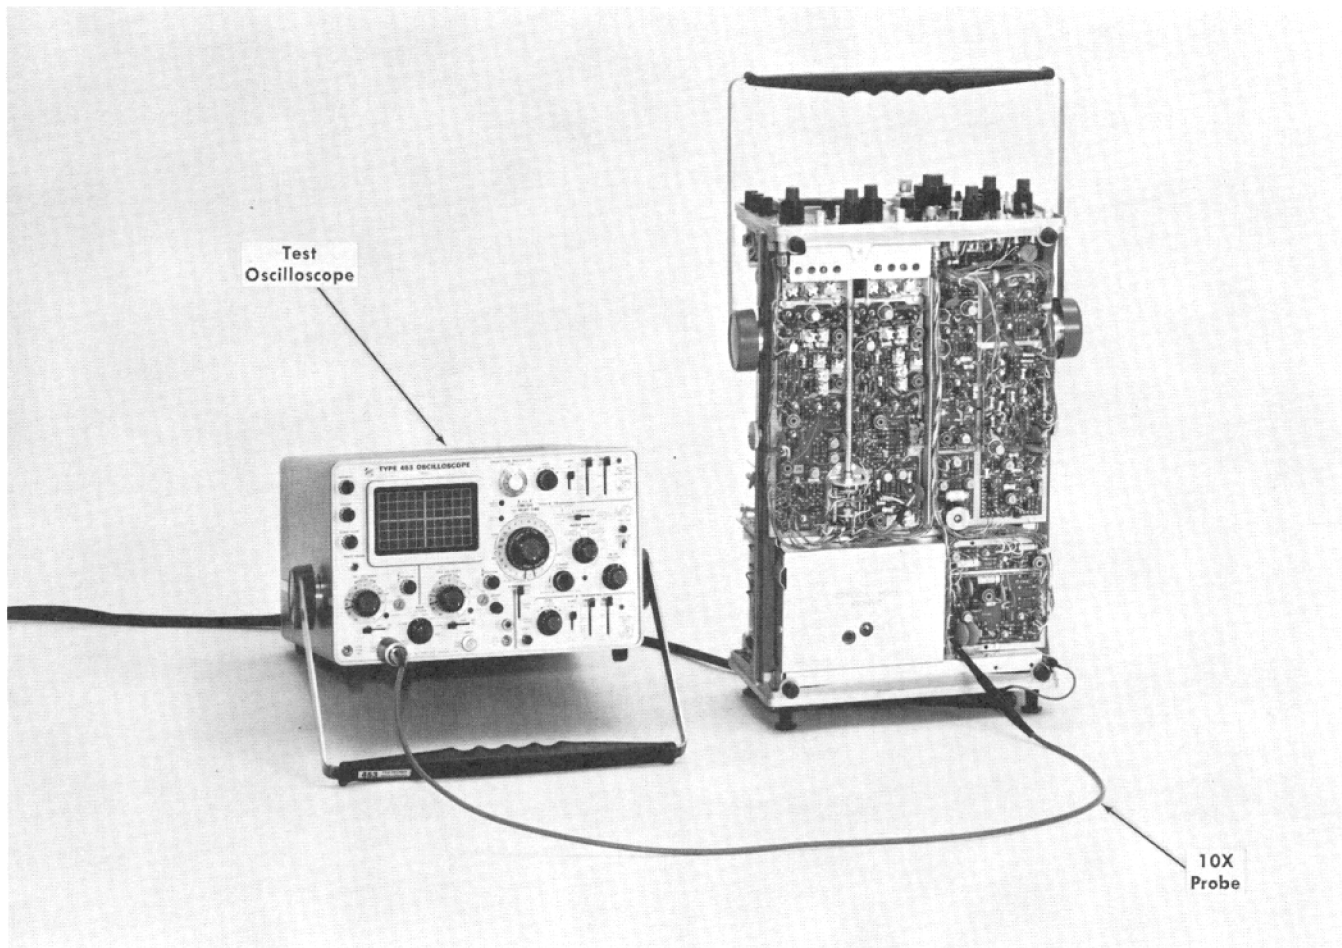

Fig. 6-11. Initial test equipment setup for steps 7 and 8.
- a. Test equipment setup is shown in Fig. 6-11.